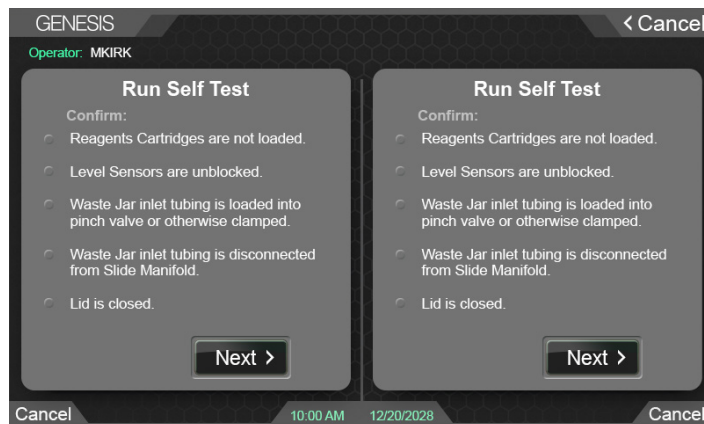

Fig. 18. Confirm Run Self Test.
- A confirmation list will appear on the screen, which lists the actions/items the system looks for **prior** to running the Self Test (Figure 18).